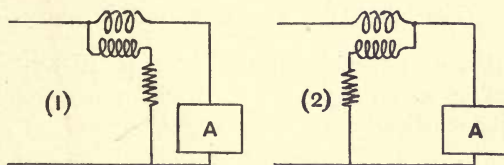

FIG. 14.
4. A moving coil instrument has a resistance of 100 ohms, and gives a full scale deflection with a P.D. of 3 volts. Explain how you could use the instrument for measuring (1) pressures up to 120 volts; (2) currents up to 20 amperes.
6. A wattmeter is employed to measure the power given to the apparatus A. Consider the errors that would be introduced by joining up the wattmeter as illustrated in Fig. 14